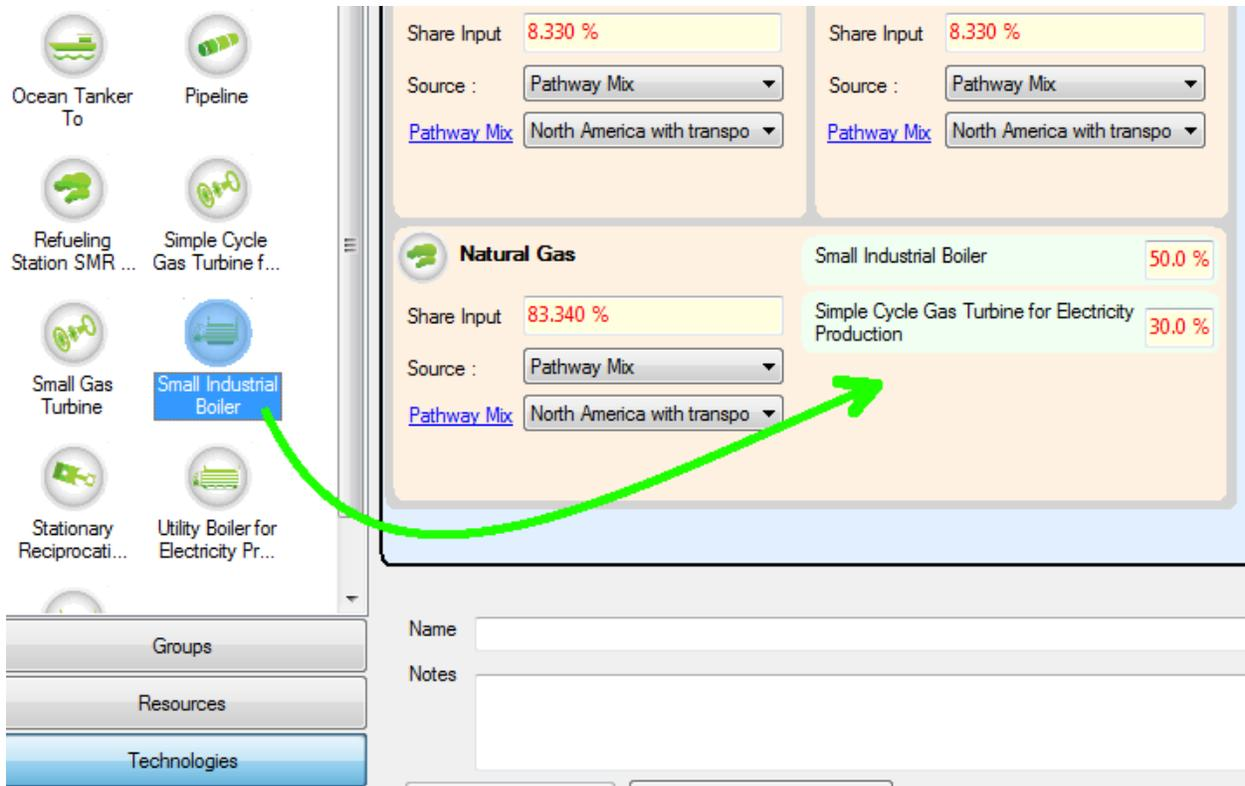

Figure 44: Dropping a Technology Over an Input and Assigning Shares to It
**Adding technologies:** Technologies are added to a stationary process by dragging and dropping an existing technology over the inputs and assigning a share to it. To do so, click on the **Technologies** button in the bottom left corner, and use one of the available technologies for one of the inputs present in the process. Figure 44 shows dragging and dropping a utility boiler and a simple cycle gas turbine onto a natural gas input.